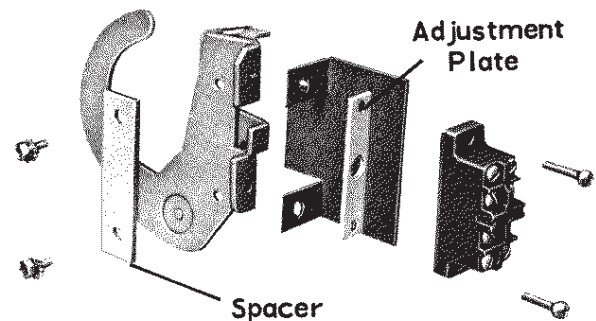

Fig. 2
**NOTE:** In some switches (depending on date of manufacture) there will be an indentation in the support bracket and it will be necessary to install the spacer shown in fig. 2. between the interlock and the support bracket.
4. If snap switch does not open before disconnect switch in Step 3, it may be necessary to install the adjustment plate shown in fig. 2 between the interlock operating mechanism and snap switch. Remove snap switch, install adjustment plate and re-mount snap switch.